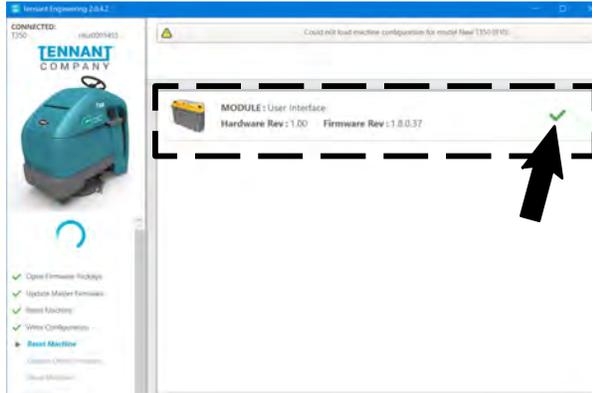

FIG. 57
56. A check appears where the process status indicator with the percent status was previously located when the lithium battery firmware update is complete. (Fig. 57)